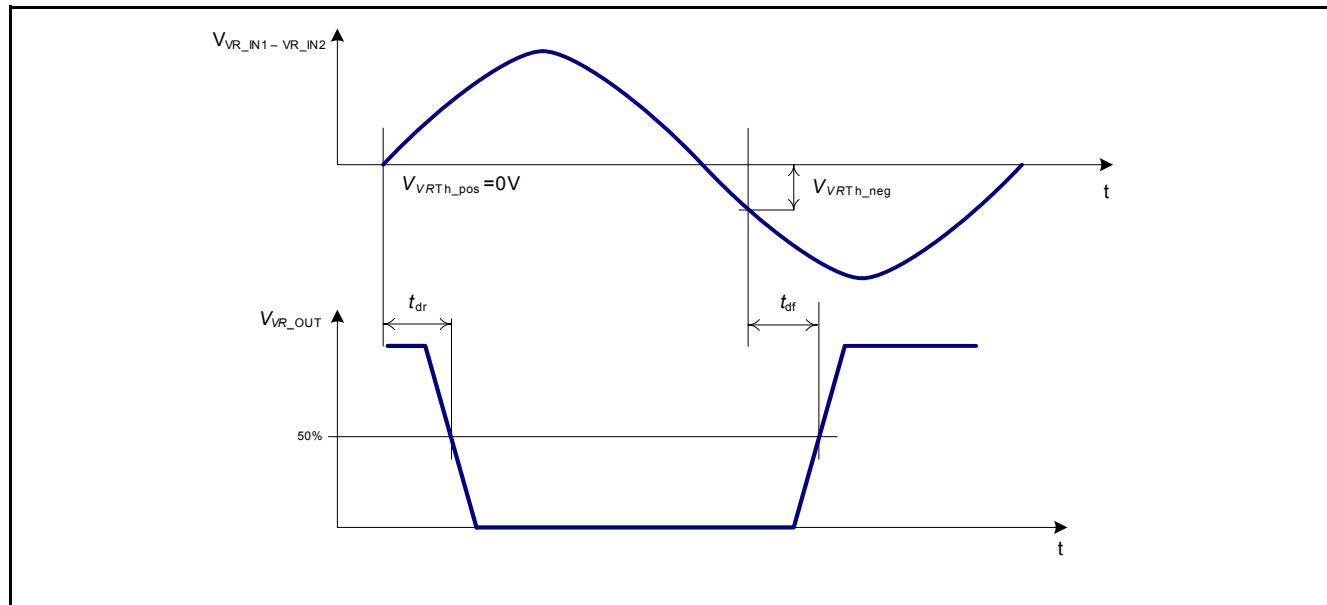

Figure 12 Timing Characteristics of the VR Sensor Interface
The variable reluctance (VR) sensor interface converts an output signal of a VR sensor into a logic level signal suited for μ C 5V input ports. The voltage difference between the two input pins, **VR_IN1** and **VR_IN2**, which are connected to the two output pins of the VR sensor, is detected and the output pin **VR_OUT** is switched depending on the sign of the voltage difference (see Figure 12). The amplitude of the VR sensor signal is limited by an internal clamping circuit to avoid damage of the device due to over voltage caused by the VR sensor signal.